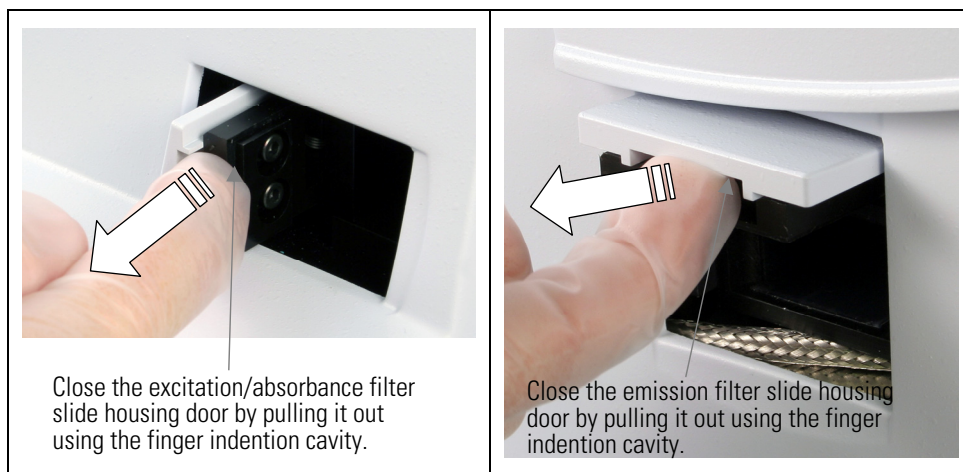

Figure 4–24. Closing the filter slide housing doors
3. Close the excitation/absorbance or emission filter slide housing door manually by pulling it out using the finger indentation cavity as aid (Figure 4–24).